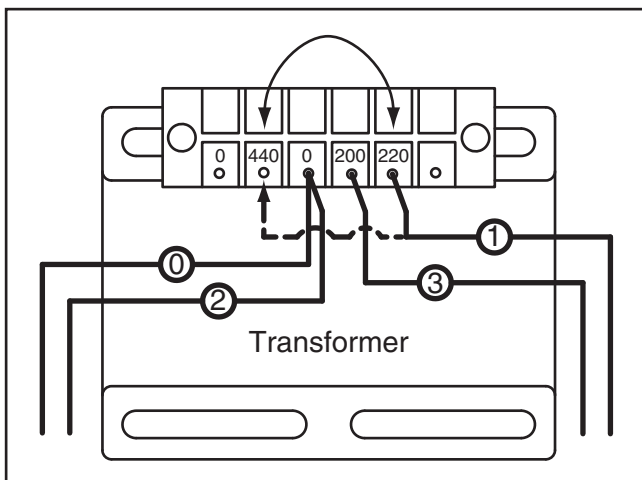

Figure 7. 440V transformer connection.
3. On transformer, remove wire connected to the far right 220V terminal, and re-connect it to 440V terminal, as shown in **Figure 7**.